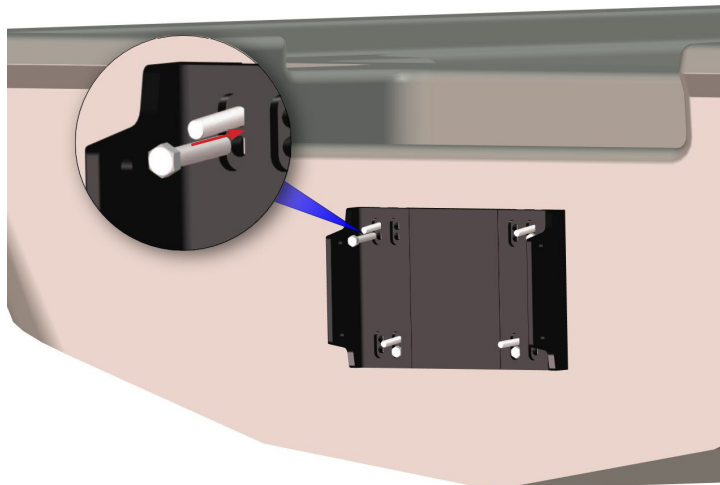

Figure 5
STEP 5: Install the **M to S adapter plates (B)** onto the boat transom/ jack plate and tighten to your boat manufacturer's torque specifications. **FIG 5**